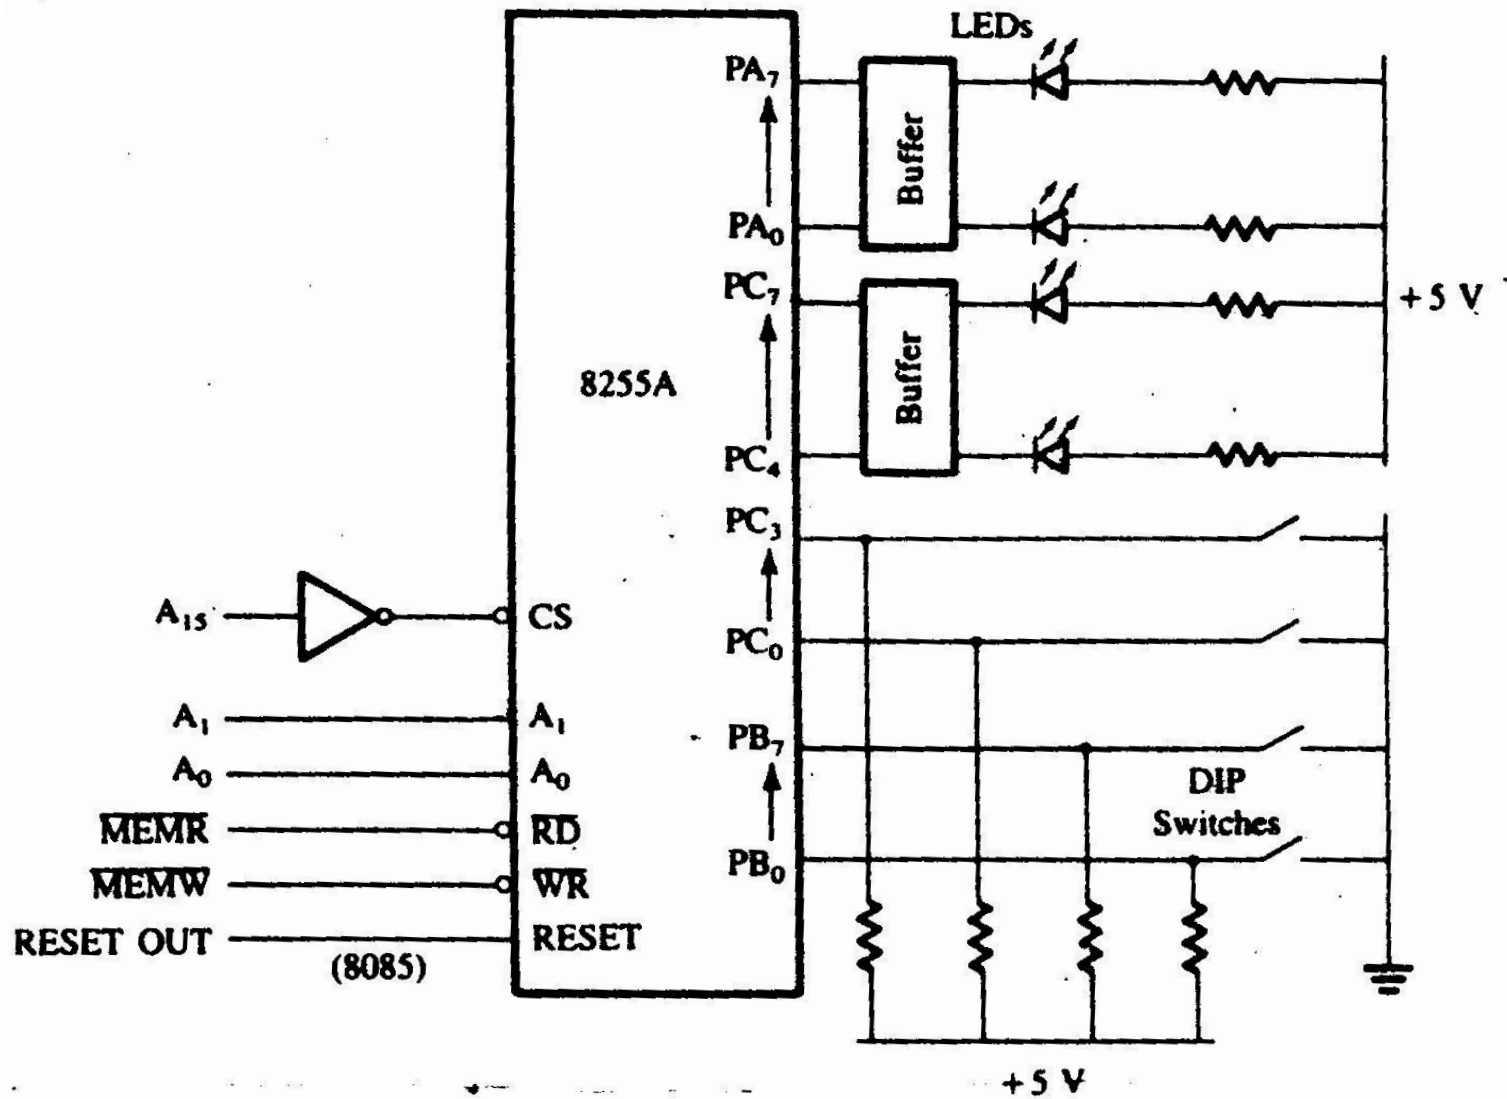

FIGURE 15.5
1. Identify the port addresses in Figure 15.5.